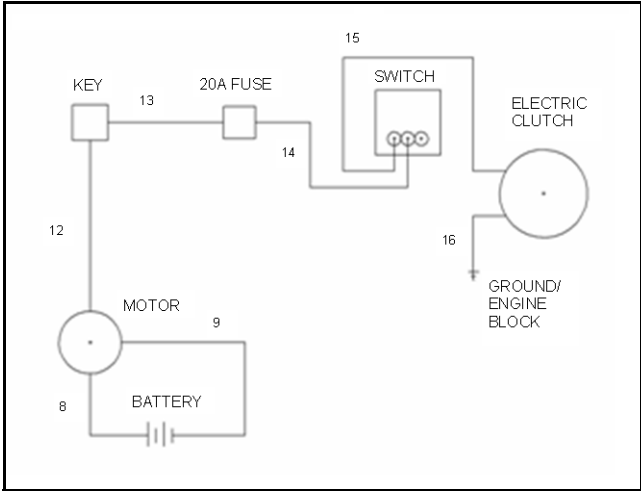
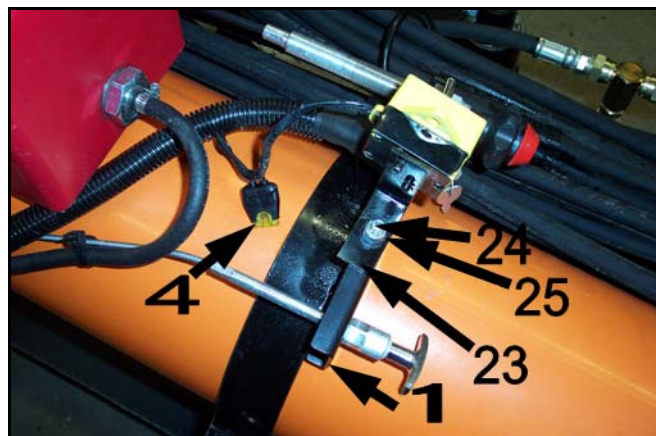

Figure 3.39 Onan/Linamar
Figure 3.43
Refer to Table 3.11 for the quantity of each component used and Figures 3.39 to 3.46 for the wiring assembly.
Refer to Figure 3.39 for the appropriate wiring diagram.
3. Wire a 20A fuse and connector (Figure 3.43) to switch middle port and extra port at key (Figure 3.39).
8. Install wires in switch as noted in Figure 3.39.